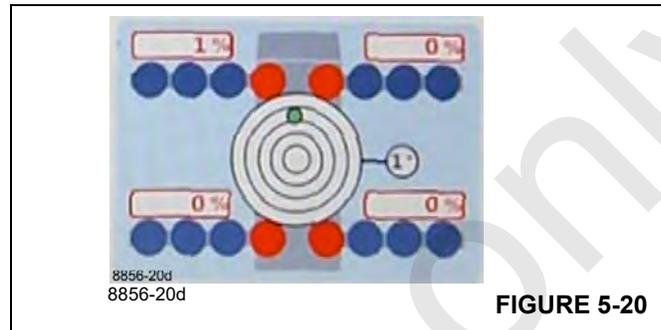

FIGURE 5-20
9. Align the truck crane horizontally (Figure 5-20).